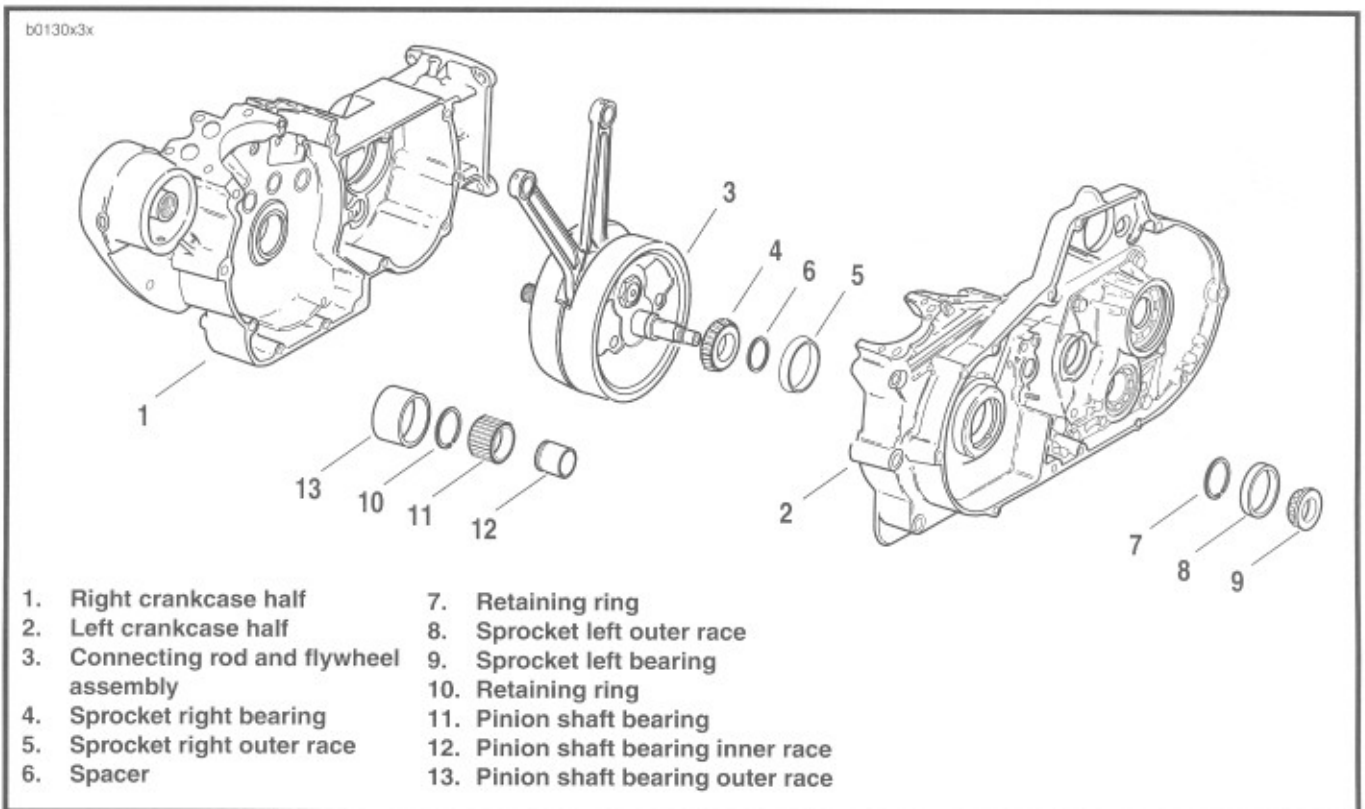
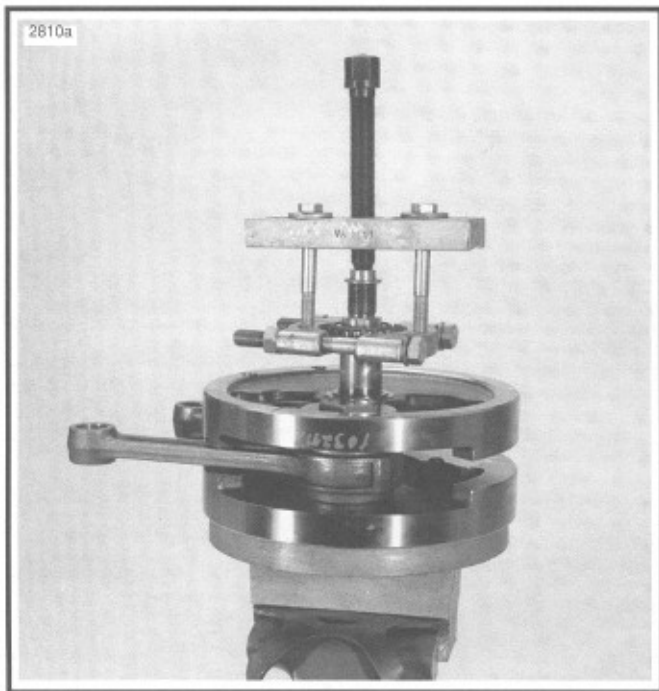

Figure 3-76. Crankcase and Flywheel Assembly
Figure 3-78. Removing Sprocket Shaft Roller Bearing
See Figure 3-76. If it is necessary to remove either the pinion shaft bearing (11) or sprocket shaft bearing (4 and 9), proceed as follows:
10. Pinion bearing (11) will remain on pinion shaft. Remove retaining ring (10), and bearing (11) may be slipped off pinion shaft.
11. See Figure 3-78. Pull sprocket shaft bearing with WEDGE ATTACHMENT FOR CLAW PULLER (Part No. HD-95637-46) and TWO JAW PULLER (Part No. HD-97292-61) using bolts in place of jaws.
See Figure 3-76. Do not remove retaining ring (7); the crankcase can easily be damaged during the removal process. Removal of the retaining ring is not necessary for the removal or installation of the outer bearing races.
See Figure 3-76. A pressed-in bushing in the right crankcase half is the outer race (13). The inner race (12) is pressed on the pinion shaft.